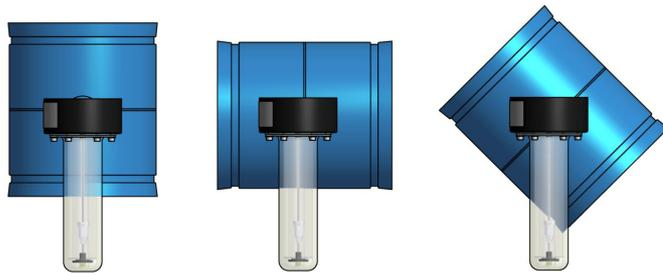

Fig. 3 Examples of installation
The installation can be in any line routing - horizontal to vertical - place (Fig. 3). However, it is important to ensure that the flow direction of the arrow marked on the device and corresponds to the differential pressure sampling tube (Fig. 6/7, pos. 7) is in the horizontal position. For attachment of the bypass meter, sufficient clearance must be provided. Important for the compliance of the measuring tolerance is the central mounting of the pipeline. The center offset must not exceed 0.5 mm.